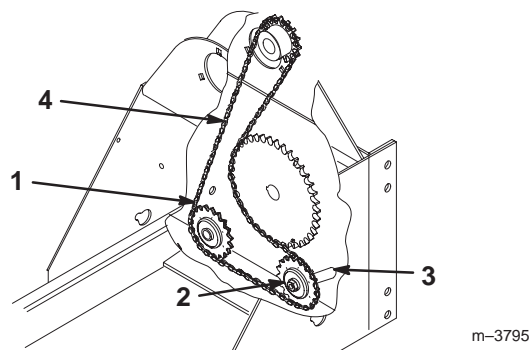

Figure 49
2. To adjust, loosen the nut that secures the idler sprocket. (Fig. 49).
3. Slide the idler sprocket in the adjustment slot until the chain is snug, but not tight (1/8" to 1/2" deflection of the chain in the area indicated in Figure 49) and torque the nut securing the sprocket to 67 to 83 ft lbs (90.8 to 112.5 Nm).